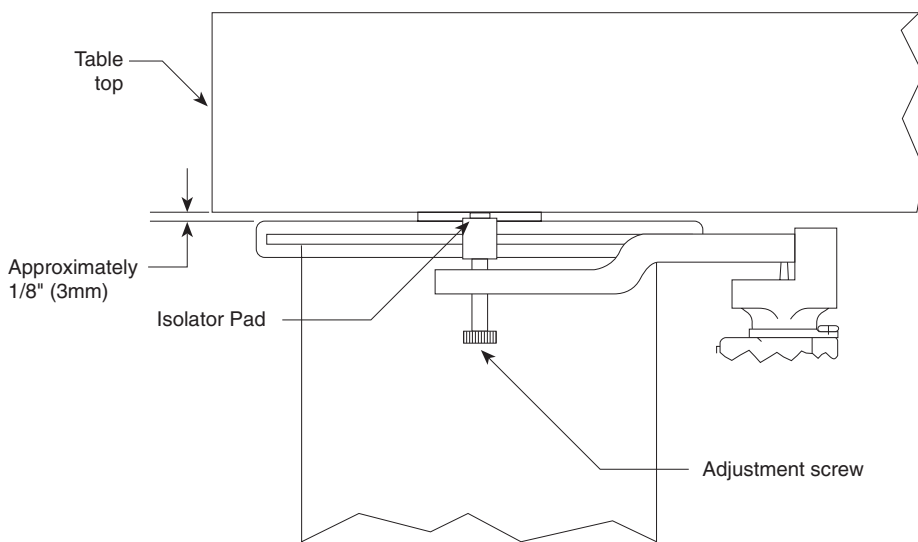

Figure 2.5 — Leveling Arm Orientation
- A. Position the pads on each of the three leveling valve arms so that they contact the underside surface of the table top (Figure 2.5).